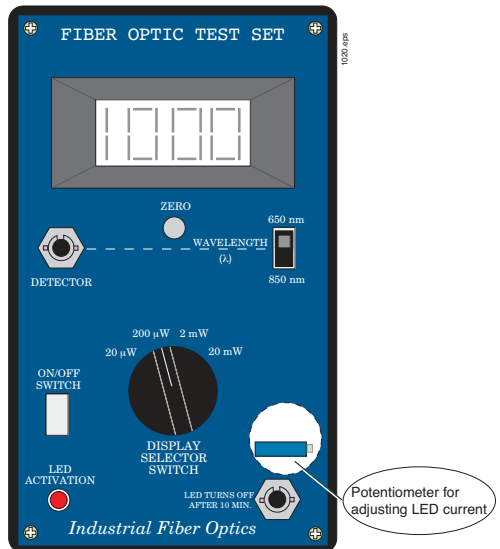

Figure 4. Test Set front panel showing the location of the potentiometer for adjusting the LED current
5. Locate the rectangular potentiometer (it has a small screwdriver slot) on the circuit board area closest to the LED receptacle as shown in Figure 4. With the LED source on and stable, adjust the LED drive current (controls the power) by turning the potentiometer slot with a small blade screw-driver. Clockwise rotation will increase the current, and vice-versa. Adjust the potentiometer until the display reads within $\pm 10\%$ of the calibration value supplied with the test cable. **Note: DO NOT ADJUST ANY OTHER POTENTIOMETER ON THE CIRCUIT BOARD SET EXCEPT THE ONE DESCRIBED. Doing so will destroy factory calibration of the radiometer portion of the test set, requiring the unit to be returned for service.**